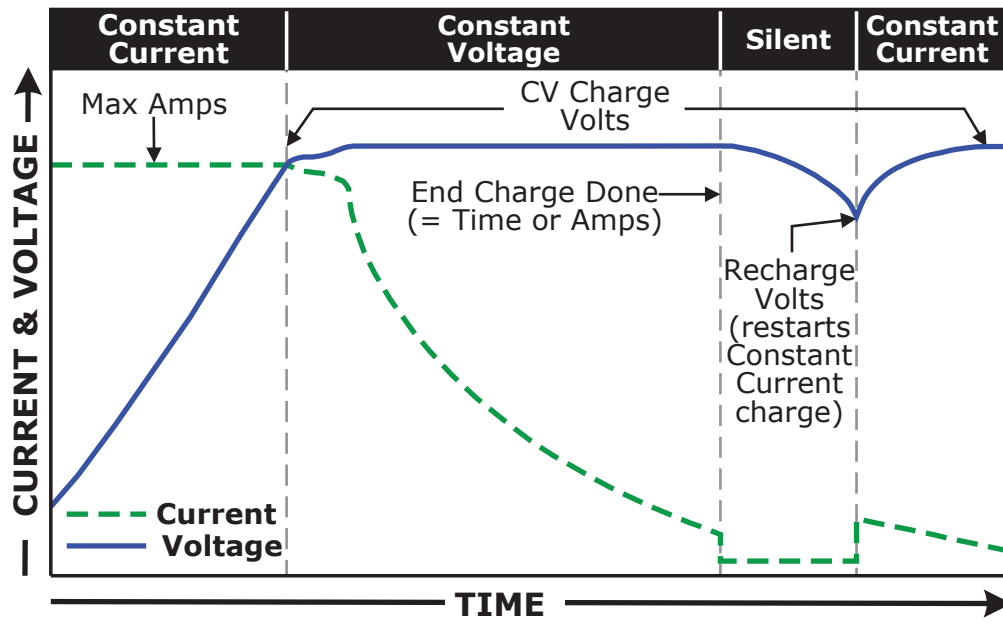

Figure 3-13, Done Time / Amps Charge Stages
■ **EndChg** – These selections determine when the second stage of charging (Constant Voltage) is finished. If using the *DoneTime* or *DoneAmps* selections, once the constant voltage charge cycle is finished, it transitions to a Silent charge stage. After entering the Silent Charge mode, the charger automatically stops charging, but is still actively monitoring the battery voltage. The charger will remain “Silent” until the battery voltage drops to the *Recharge* setting, at which time the charger will start another Constant Current/Constant Voltage charge cycle (see Figure 3-13).